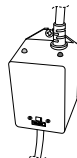

FIGURE 8
13. **System Test 1:** Assure there is no water dripping from the seal compression nut (5). If water is visible, STOP and tighten the compression nut (5) using a pair of channel lock pliers to a maximum of 1/4 turn. If that does not fix the leak, then repeat quartz tube maintenance process from step 1 through step 12. Make sure there is no water leaking before proceeding to step 14.
15. Reconnect the UV bulb socket (7) to the power cord socket (11) make sure you use the latex glove provided when handling the UV bulb.
16. Slide the new UV bulb (3) back inside the quartz tube.
17. Reinstall the black bulb boot (6) back over the quartz seal compression nut (5).
18. Reinstall the enclosure cover (9) with gasket (8) and secure with the screws.
20. Once power is activated you can check the ballast (12), Figure 8, to see if the CLEARRAY Active Oxygen™ System is functioning; it has two LED indicator lights the green indicating incoming power flow and the red indicating the system is properly working.